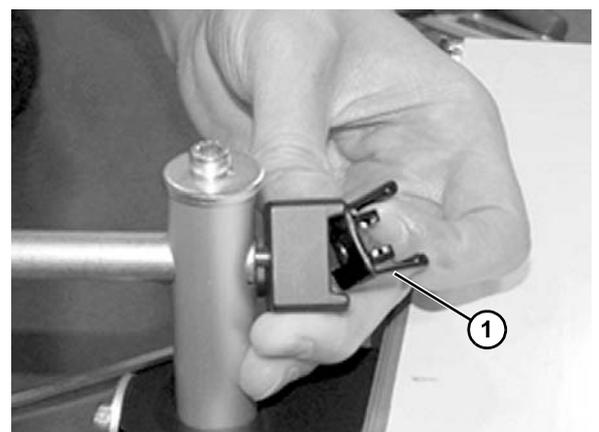

**Figure 17**
2. Tighten screws (**Figure 17, item 1**) making sure t-nut (**Figure 17, item 2**) rotates and engages inside of the t-slot.